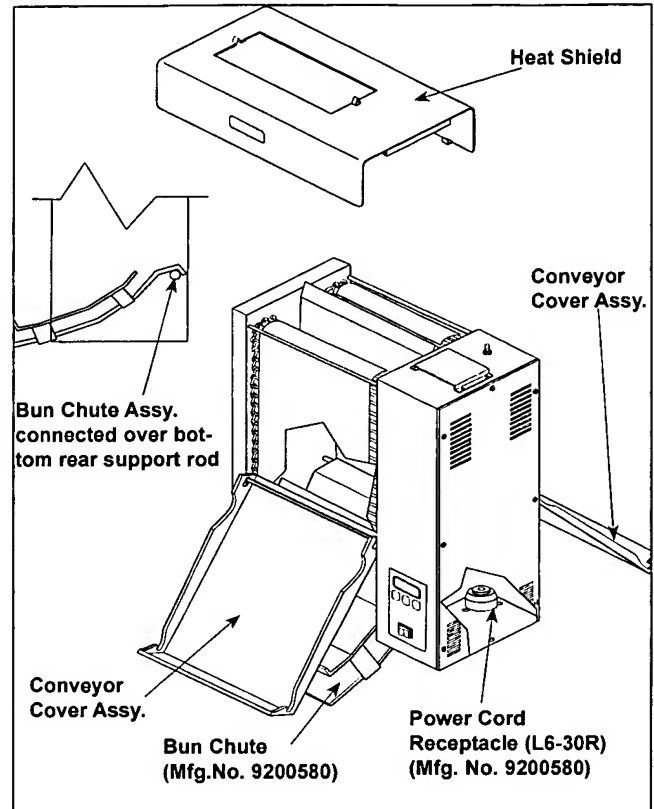

Figure 1. Installing Bun Chute
- bun chute (Figure 1)
1. Remove bun chute from the additional box and install (Figure 1.)
6. Install power cord to the bottom of unit (Figure 1) (Mfg. No. 9200580 only).